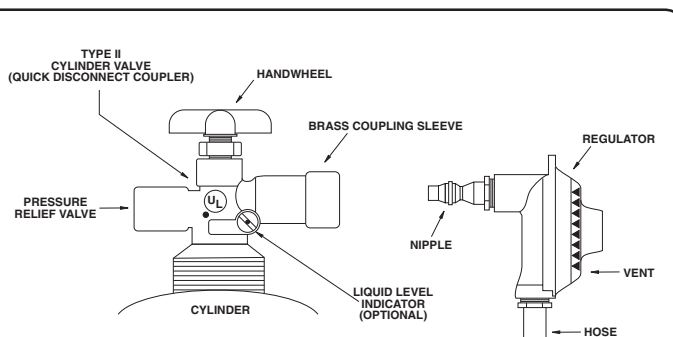

Figure 3B Type II Quick Disconnect Coupler
- Your Propane Gas Cylinder may be equipped with a Type II Quick Disconnect (plug-in) Coupler (Figure 3B). An approved regulator /hose assembly for this type of coupling is available through your dealer from R.H. Peterson Co.